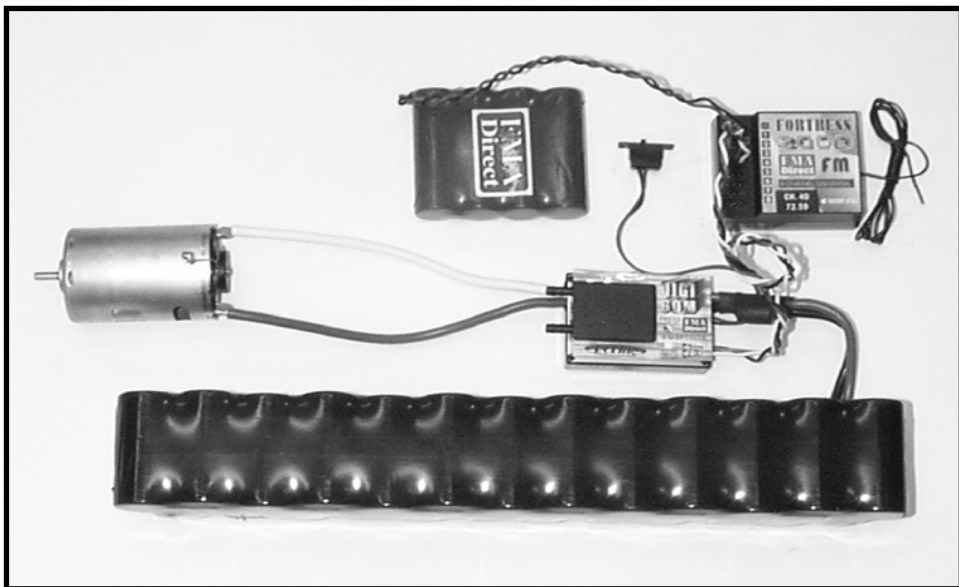

Figure 1 - ESC Installation
Refer to figure 1 when connecting the DIGI 60M to your R/C receiver, motor, and battery pack. Please read the following section completely making certain to follow the directions in the proper order before applying power to the unit.
1. Plug the three wire servo type connector into the throttle output on your receiver. The DIGI 60M comes equipped with a "JR" style connector making it automatically compatible with any standard servo configuration whereby the battery and signal polarity is negative, plus, signal. **CAUTION: DO NOT ATTEMPT TO INTERFACE THE STANDARD CONNECTOR PROVIDED WITH THE UNIT TO AN "OLD STYLE" AIRTRONICS RECEIVER OR DAMAGE WILL RESULT TO THE SPEED CONTROLLER AND THE RECEIVER NOT COVERED BY WARRANTY!** Should you elect to interface the DIGI 60M to an "old style" Airtronics receiver, the proper connector shell is provided for this purpose. Follow the directions included with the shell to replace the standard JR type connector shell with the Airtronics shell. Make certain to maintain the proper polarity as indicated in the illustration. Remember, "old style" Airtronics connectors are the reverse polarity of industry standard and are wired positive, negative, signal! If you are unsure of the polarity of your receiver, contact your local dealer or phone FMA Direct immediately at (301) 831-8980 for assistance!
4. Care must be taken when connecting a battery to the DIGI 60M. Because of the high current consumption in high output motors, it is recommended that you avoid using standard "TAMIYA" type connectors in line with the battery connected to the DIGI 60M. Depending on your current requirements, your best bet is to use high capacity connectors (see your local dealer) between the DIGI 60M and the battery terminals or solder the wiring directly to the battery pack. A "TAMIYA" or "SERMOS" type connector (not shown in Figure 1) *may* be attached to the battery pack *in parallel* to the battery leads to facilitate charging. Make certain that the ESC switch is in the off position. Connect the heavy, RED wire from the ESC to the
5. Verify that the DIGI 60M is connected as illustrated in Figure 1 and described in the previous section, INSTALLATION: RECEIVER / MOTOR / BATTERY CONNECTIONS.